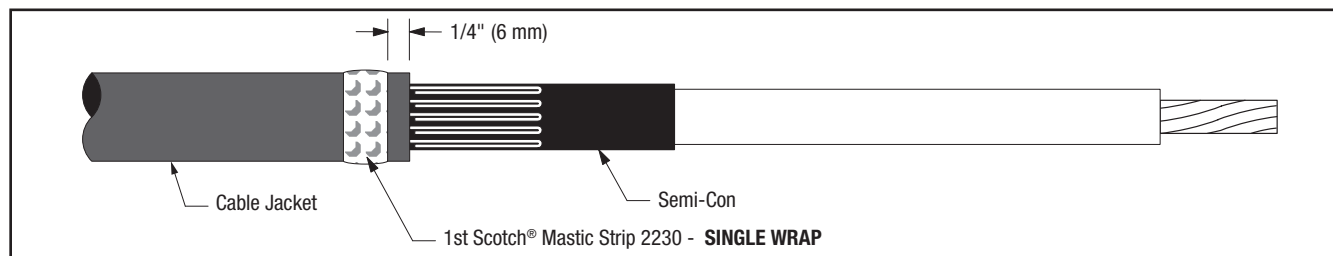

Figure 10
8.1 Select a Scotch® Mastic Strip 2230 from kit and remove white release liners. Using light tension apply a **SINGLE WRAP** of mastic around the cable jacket 1/4" (6 mm) from cut edge (Figure 10). Cut off excess.